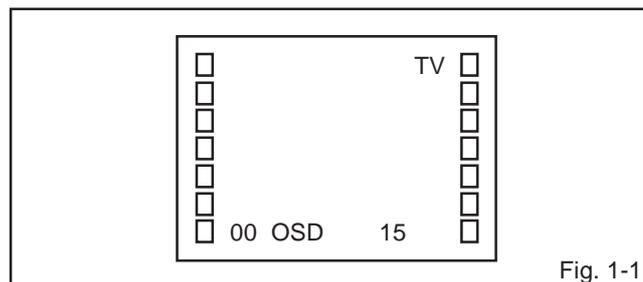

Fig. 1-1
2. Press the VOL. DOWN button on the set and the Channel button **(9)** on the remote control for more than 2 seconds to display adjustment mode on the screen as shown in **Fig. 1-1**.
3. Activate the adjustment mode display of **Fig. 1-1** and press the channel button **(02)** on the remote control to select "RF AGC".
3. Activate the adjustment mode display of **Fig. 1-1** and press the channel button **(03)** on the remote control to select "VIF VCO".
4. Activate the adjustment mode display of **Fig. 1-1** and press the channel button **(01)** on the remote control to select "CUT OFF".
4. Activate the adjustment mode display of **Fig. 1-1** and press the channel button **(10)** on the remote control to select "R.BIAS".
3. Activate the adjustment mode display of **Fig. 1-1** and press the channel button **(13)** on the remote control to select "BRIGHTNESS".
4. Activate the adjustment mode display of **Fig. 1-1** and press the channel button **(16)** on the remote control to select "TINT".
4. Activate the adjustment mode display of **Fig. 1-1** and press the channel button (**15**) on the remote control to select "COLOR".